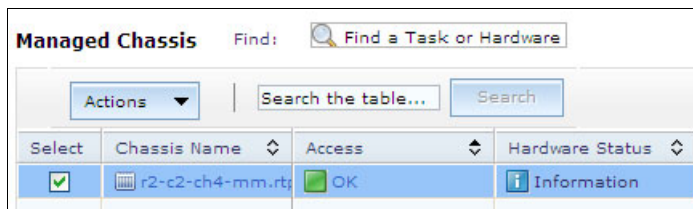

Figure 10-4 Installed chassis name
2. Click the chassis name as shown in Figure 10-4.